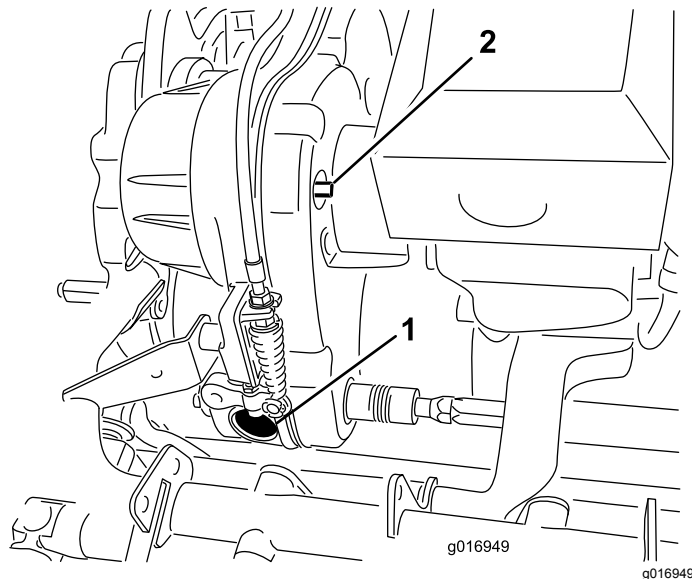
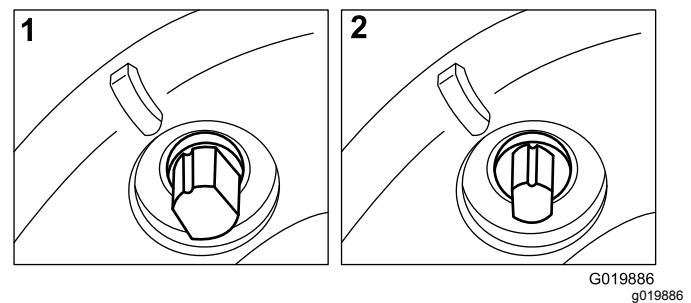

Figure 46
Figure 47
Remove the rubber plug (Figure 46) from the hole in the front of the transmission to visually inspect the reel clutch when making adjustments.
The transmission belt is tensioned by a spring-loaded idler pulley. If you must engage or disengage the belt tension, use a 3/8-inch wrench to rotate the engage/disengage shaft (Figure 46) to the desired position. Rotating the shaft 1/4-turn (90°) clockwise disengages the idler from the belt (Figure 47).
- Note:** Remove the rubber plug (Figure 46) from the hole in the front of the transmission to view the reel clutch.